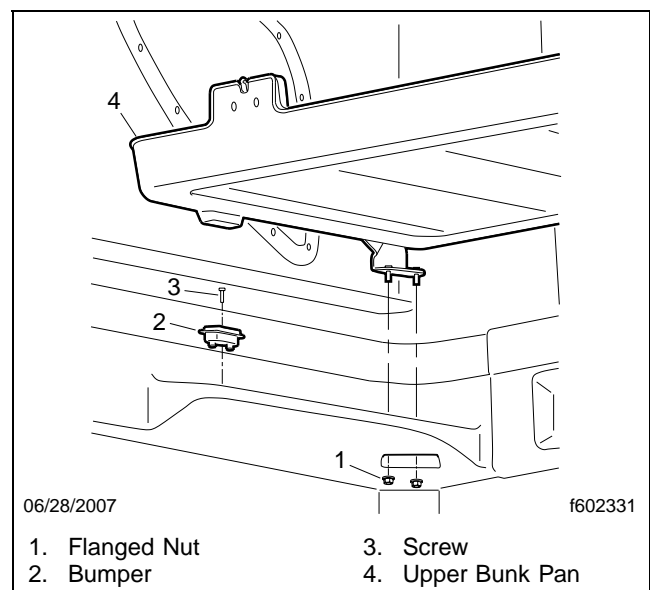

Fig. 24, Upper Bunk Installation
5. Through the light-fixture opening, remove the nuts that attach the bunk to the bracket at each end of the bunk. See **Fig. 24**.
2. Through the light-fixture opening, install the nuts on the studs. See **Fig. 24**.